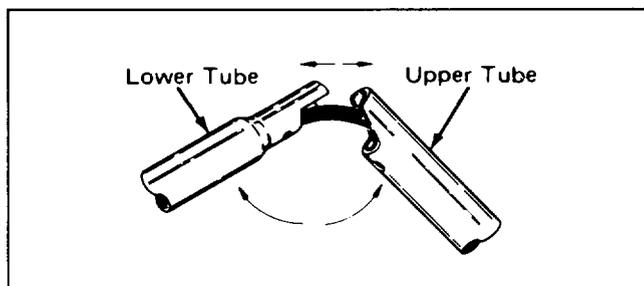

Figure 2
- **Thoroughly inspect the open internal wiring (Fig. 2) before assembling trimmer. If wiring is damaged, do not assemble or plug in trimmer. Contact your TORO Authorized Service Dealer.**
2. Pivot tube ends until aligned (Fig. 2).